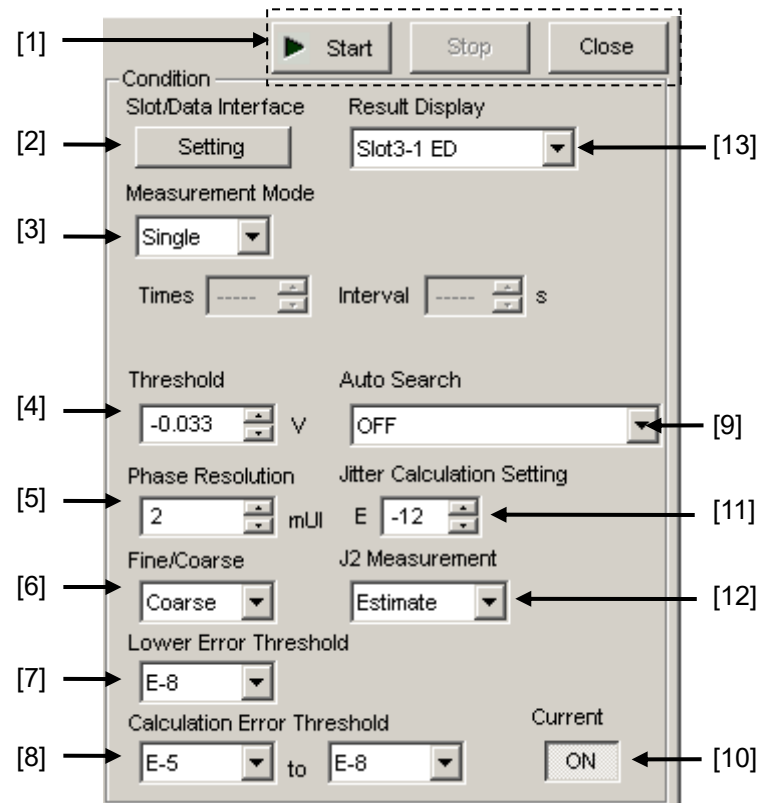

Figure 5.12.1.2-1 Measurement control area
- [7] Specify whether to show the Max and Step value display indicated by [6] in Figure 5.12.1.1-1.